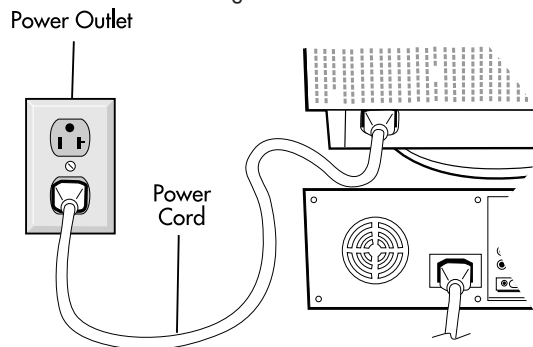

Figure C.1
5. Connect one end of the power cord to the MultiSync FE Series monitor and the other end to the power outlet (**Figure C.1**).